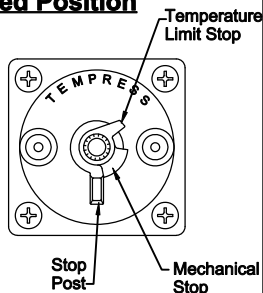

Fig. 8
- After plastering and/or tiling is complete, remove plastic installation cover and plastic diverter cover (if applicable) - See Fig. 4. Make sure stem broach (See Fig. 8) is completely in the off position. (Fully rotate clockwise)
All *California Faucets* pressure balance valves are equipped with a Temperature Limit Stop. This device (see Fig. 8), can be adjusted to limit the maximum temperature of the water delivered by the valve. The Temperature Limit Stop is set at the factory in a neutral position. Set or adjust as follows:
- 2 Rotate stem broach clockwise to fully closed position (See Fig. 8).
- 3 Remove stem broach by inserting a long, narrow Phillips head screw driver into the center of the broach and unscrewing the internal screw. Lift off thin brass temperature limit stop (See Fig. 9). Rotate stem broach fully closed and make sure mechanical stop is to the right against stop post (See Fig. 8). Rotate broach counter clockwise until the desired maximum temperature is reached. Replace temperature limit stop so it rests at the left side of the stop post (See Fig. 11).
- 1 Remove valve handle, faceplate and stem broach as described above. **Important: Make sure broach is in the off position and note the settings of the mechanical stop and the temperature limit stop (See Fig. 8).**
- 9 Rotate stem broach fully clockwise, fit mechanical stop and temperature limit stop as above (See Fig. 8).